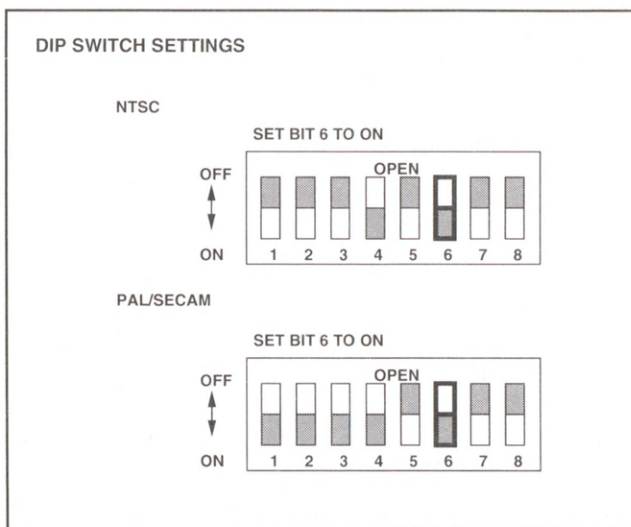

Figure 3
9. Reset switch 6 of 8-bit DIP switch to OFF (OPEN) position. (Refer to Figure 3.)